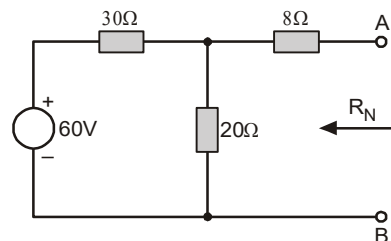

Fig.1.113: Given circuit
6. Draw the thevenin's equivalent circuit across AB, and determine current flowing through $12W$ resistor for the network shown in fig.1.113. (Ans. 4.533 A)